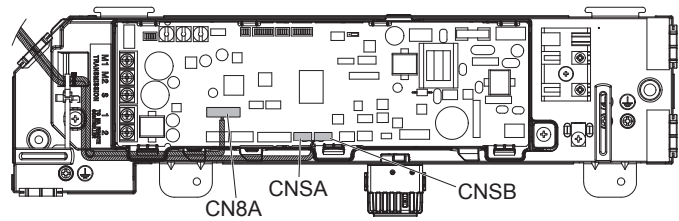

Fig. 5-6
4. Connect to the optional lead wire circuit board connector. (Fig. 5-6)